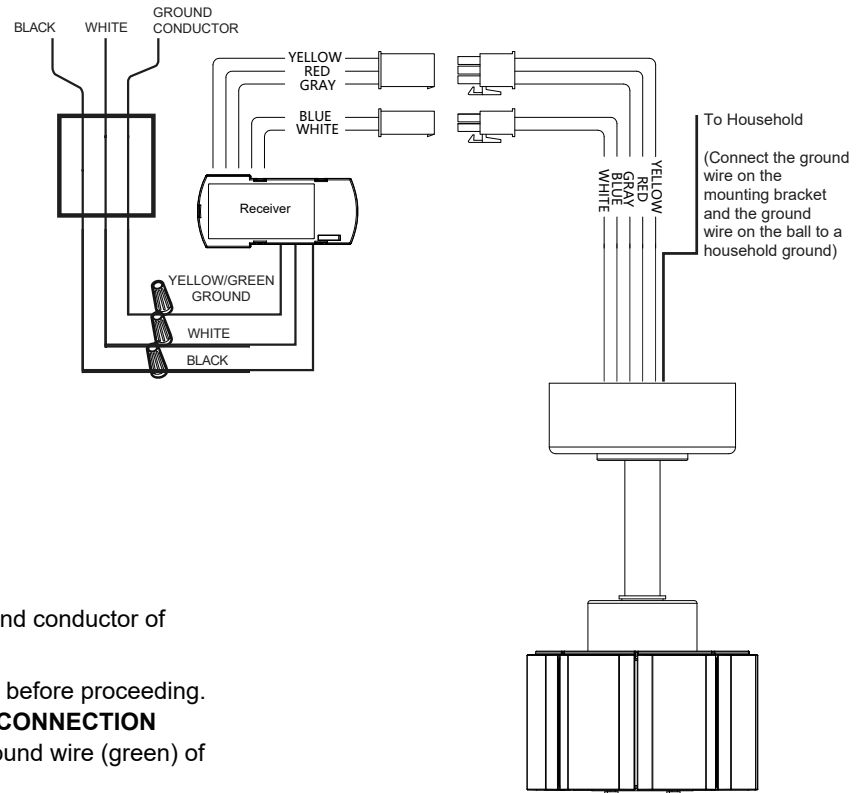

Fig. 11
Step 1. The ground wire (green) of the ceiling mounting bracket and the ground wire (green) of the ball connects to the ground conductor of the ceiling outlet box (Fig. 11).